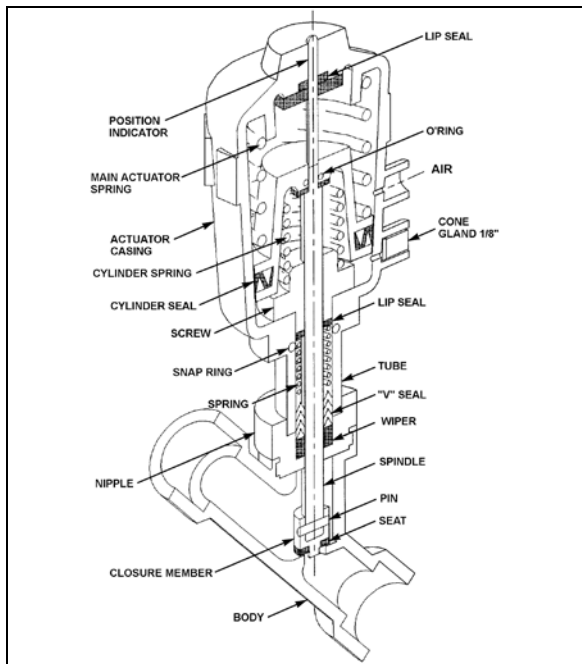

FIGURE 53: PASSENGER'S UNIT PNEUMATIC HOT WATER VALVE 22241
2. The water valve need not be removed from the line. Unscrew nipple, the actuator casing, tube, spindle and closure member can be removed (Figure 53).
2. Tighten the nipple in place in the body cavity as per Figure 53. Fasten pilot solenoid vane to the pneumatic water valve. Reconnect air supply pressure and electrical current to the pilot solenoid valve.